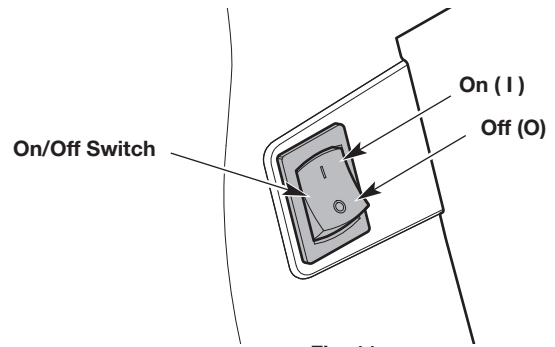

Fig. 11
**NOTE:** There is no need to turn the unit on. The On/Off switch is in the **On (I)** position at all times (Fig. 11).
2. Press and hold the On/Off switch in the **Off (O)** position until the engine comes to a complete stop (Fig. 11).